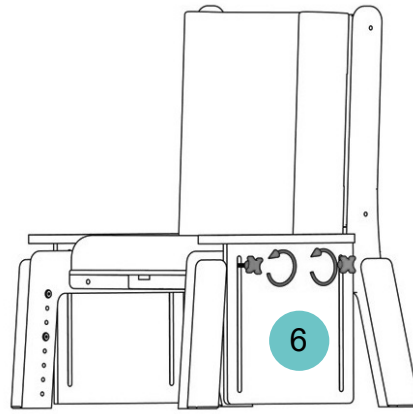

Figure 7
- Loosen handwheels (Ref. 6 of Figure 7).
- Tighten handwheels (Ref. 6 of Figure 7) when the armrest is set.